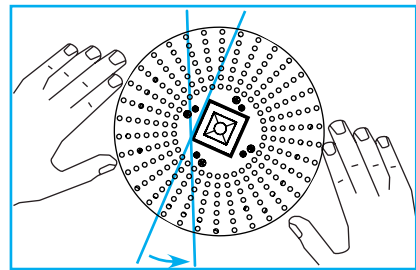

Fig.13
**Important:** Square appliques require alignment. Use string line or laser level to obtain uniform or desired alignment between multiple fixtures or adjacent wall planes. Hand-tighten retaining screws when complete (*Fig. 13*).